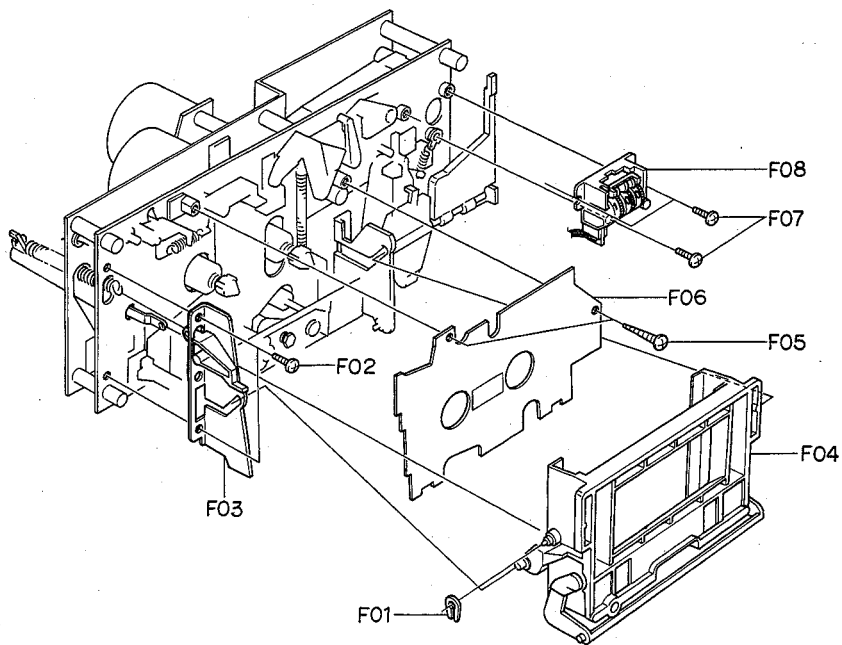

Fig. 3.5
Refer to Fig. 3.5.
- (1) Refer to Fig. 3.5. Remove Cassette Case Ass'y referring to item 3.14.
- (2) Remove F01, then disassemble F02 (Head Mount Base Ass'y).